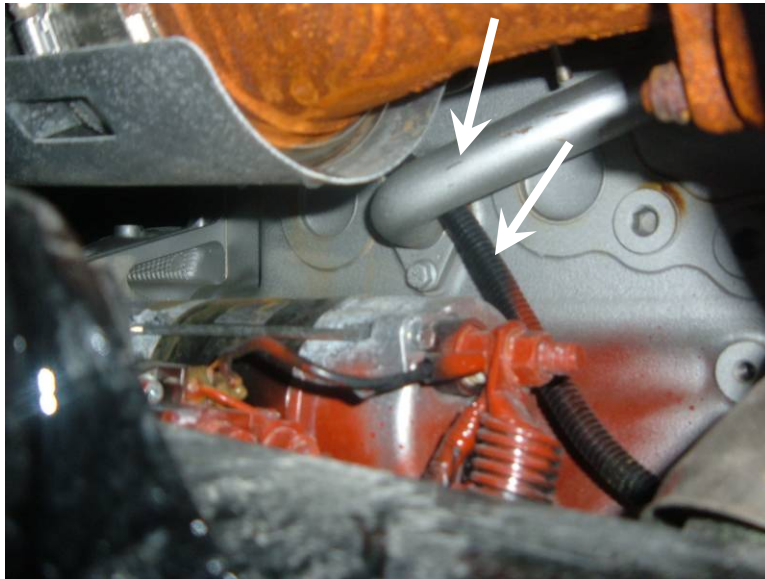

Figure 10 - Block Heater Cable Routing Around Turbo Oil Drain Tube
- e. Route electrical cable over the top of the turbo oil drain tube. See Figure 10.